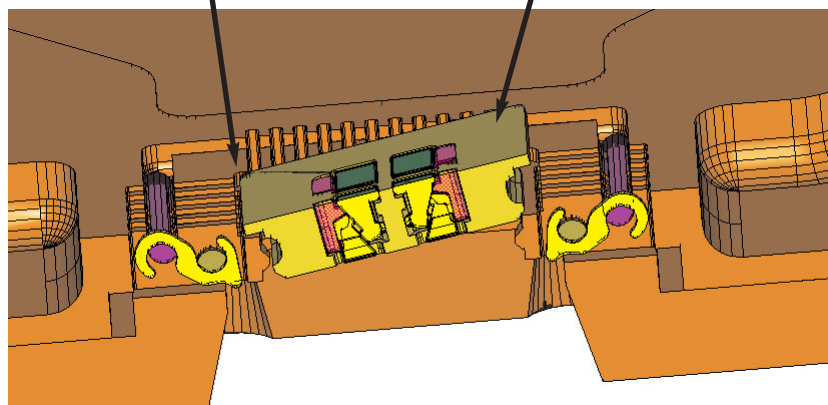

FIGURE 3
5. With a covered finger, push the opposite side of the insert into place; you will hear a "snap" sound when the insert is completely in the housing, FIGURE 3.